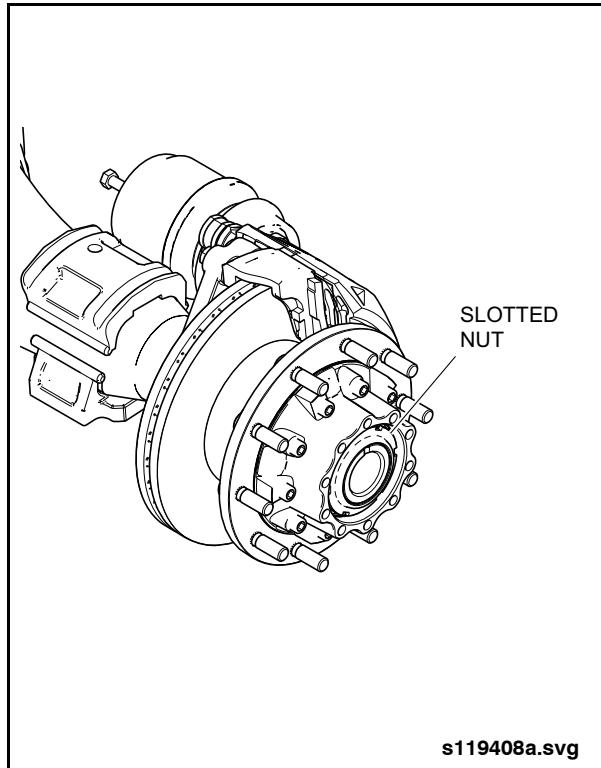

Fig. 2-15: Slotted Nut
1. Install the Slotted Nut Socket (Item 8 from special tools list) over the centering device and onto the slotted nut. See "Fig. 2-15: Slotted Nut" on page 18.